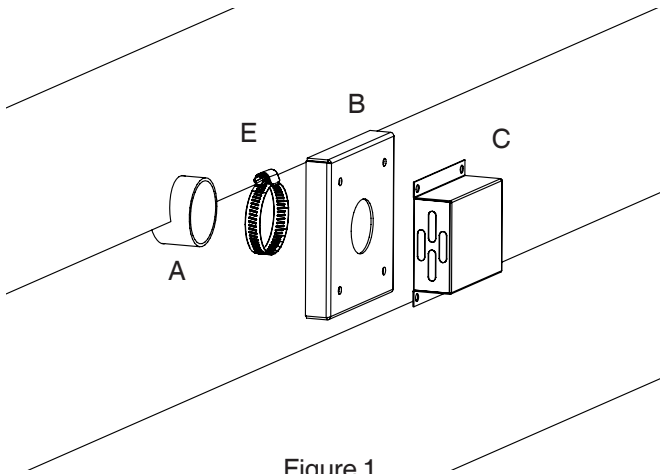
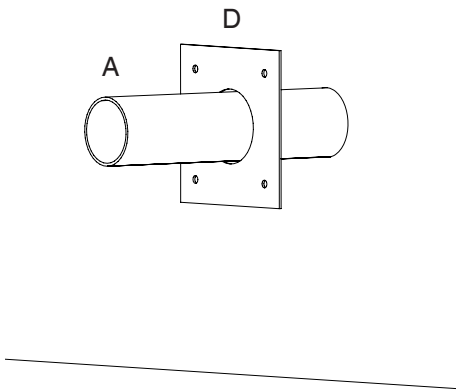

Figure 1
Figure 2
2. Insert the hose through the wall and attach the Outside Cover with one of the 2" hose clamps provided. See Figure 1.
4. Next, attach the Rodent Cover to the Outside Cover using four(4) of the #10 x 3/4 screws supplied.
5. On the inside of the home, slide the Inside Plate over the tube then attach to the wall with the four Drywall Anchors and Screws provided. See Figure 2.